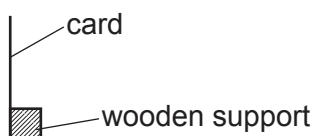

Fig. 7.2
- The screen can be made from a sheet of white card (approximately 10 cm × 10 cm). Some means of supporting the screen vertically must be supplied (e.g., fixing the white card to a small block of wood). See Fig. 7.2.